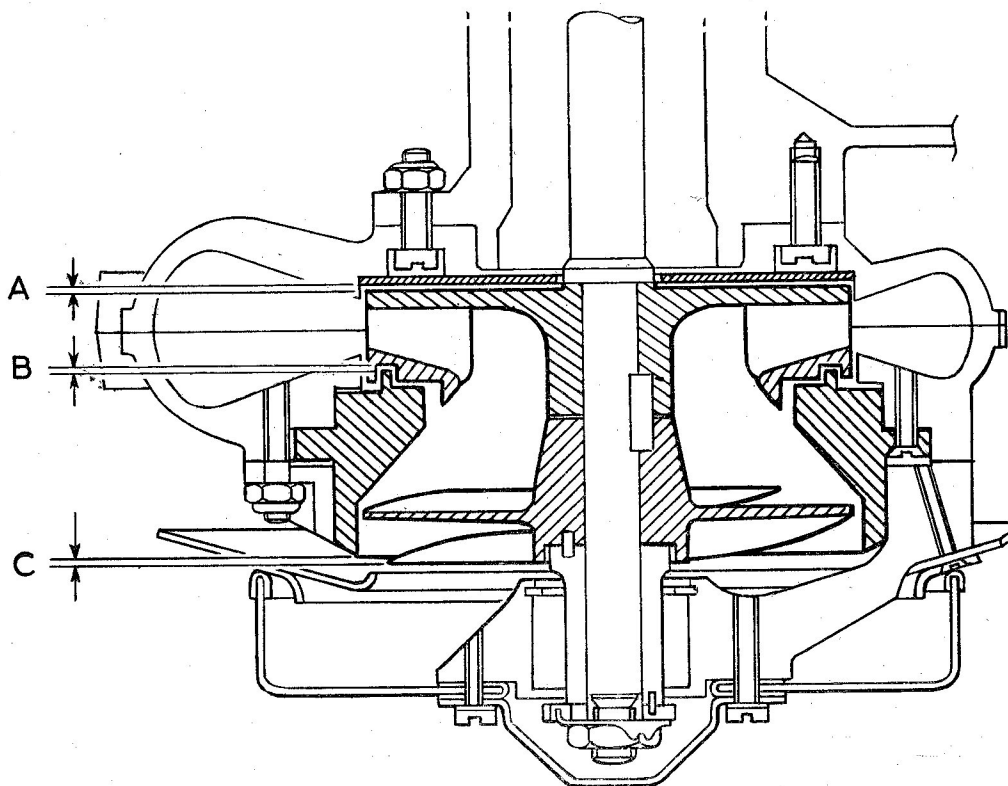

Fig. 15. Impeller, helix shroud and helix assembly clearances
(2) Fit shims (49) over the pump shaft of greater total thickness than that required to set the gap between the centrifugal impeller (53) and the shroud plate (76) at the required 0.010 in./0.020 in. (dim. A, fig. 15).
(6) Remove the shaft components and add shims (55) with a total thickness of between 0.005 in. and 0.010 in. (dim. B, fig. 15) to those already fitted. Refit the helix shroud (54) and secure with the six countersunk head screws (56).
(7) Fit the helix (59) together with any shims (70) necessary to ensure that its blades project 0.04 in./0.06 in. (dim. C, fig. 15) below the rim of the helix shroud (54) when the shaft components are tightened down. When the correct thickness of shim has been determined, remove the helix and key the centrifugal impeller (53) to the shaft with the drive key (52). Replace the shims (70) and the helix (59).